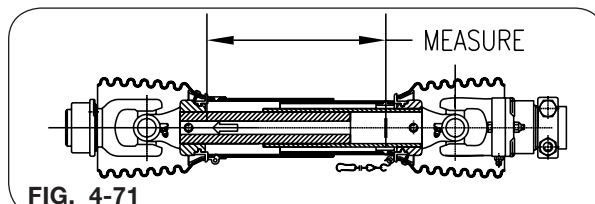

FIG. 4-71
7. Measure the length "L" from the same points as used in step 1. **This distance must be at least 1.5 inches greater than the distance measured in step 1.** If necessary, adjust the length of the PTO shaft by cutting the inner and outer plastic guard tubes and inner and outer sliding profiles by the same length. Round off all sharp edges and remove burrs before greasing and reassembling shaft halves. (Fig. 4-71)